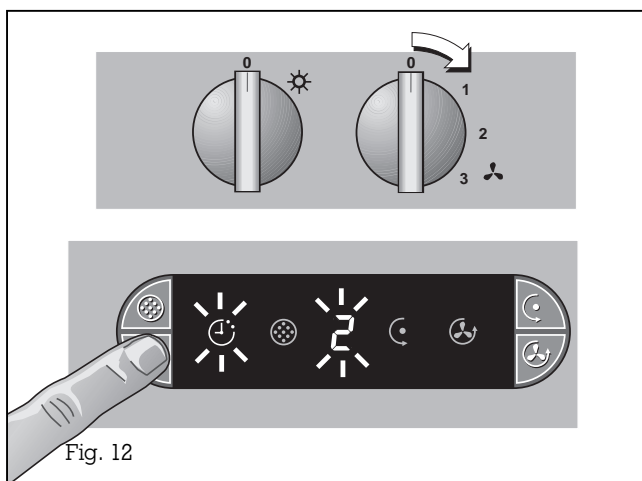

Fig. 12
- The ☺ (After-running) symbol and the set ventilation level light up on the display (Fig. 12).